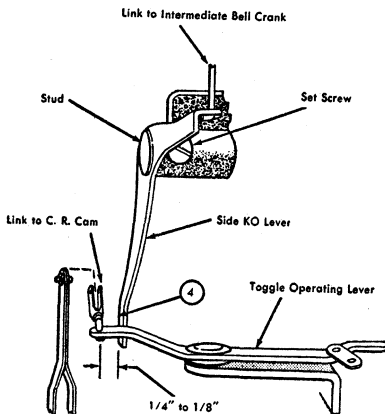

Figure 16. Side Knockout Lever Adjustment
4. **SIDE KNOCKOUT LEVER.** Form the lower arm of the side knockout lever so that it rests within $\frac{1}{4}$ to $\frac{1}{8}$ " from the link to the carriage return cam (Figure 16).